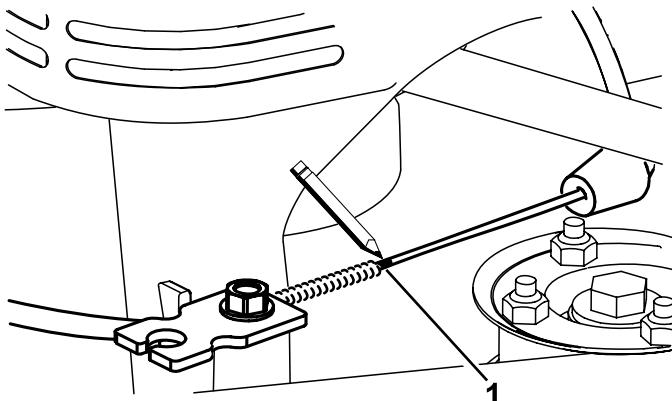

Figure 16
10. Mark the brake cable (Figure 16), then adjust the jacket until there is approximately 3 mm (1/8 inch) of slack (Figure 17).